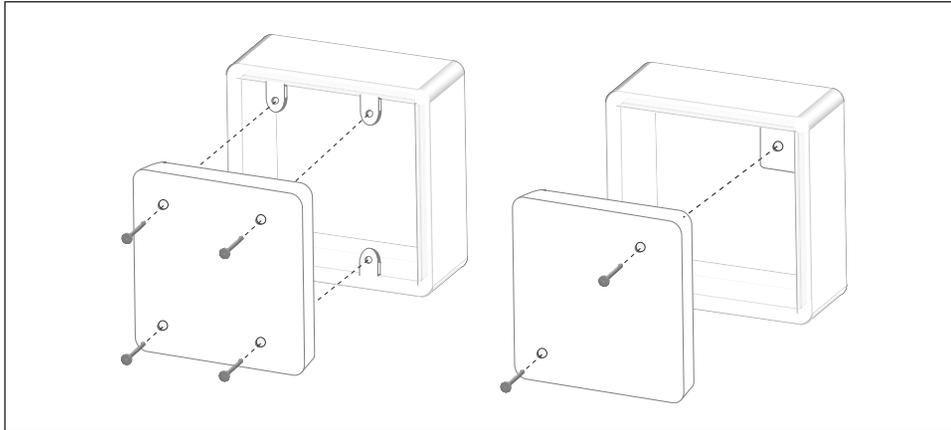

Fig 1. Mounting the Alpha Supervised Control Module
2. Turn the fascia plate face down and locate the knock-outs corresponding to the threaded holes on the electrical box selected (Fig 1). With a small screwdriver and hammer, knock out these holes from the back of the fascia plate.